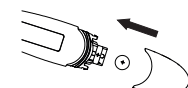

Figure 5
- Use pointed object such as a pen to remove old battery. Discard battery lawfully. Replace with new 1.5V DC button type LR41 or SR41, UCC392, or equivalent. Be sure battery is installed with "+" polarity facing up. (See Figure 5)